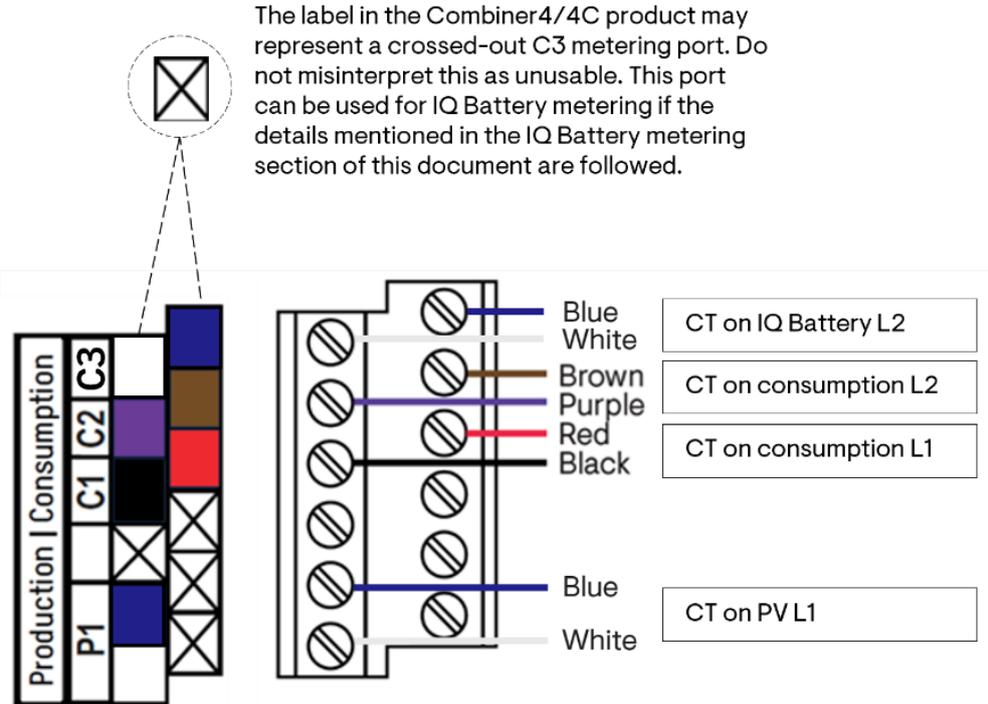

Figure 11: IQ Combiner 4/4C CT Terminals
** Refer to Figure 11 for CT wiring for IQ Combiner 4/4C shipped with clamp-type CTs